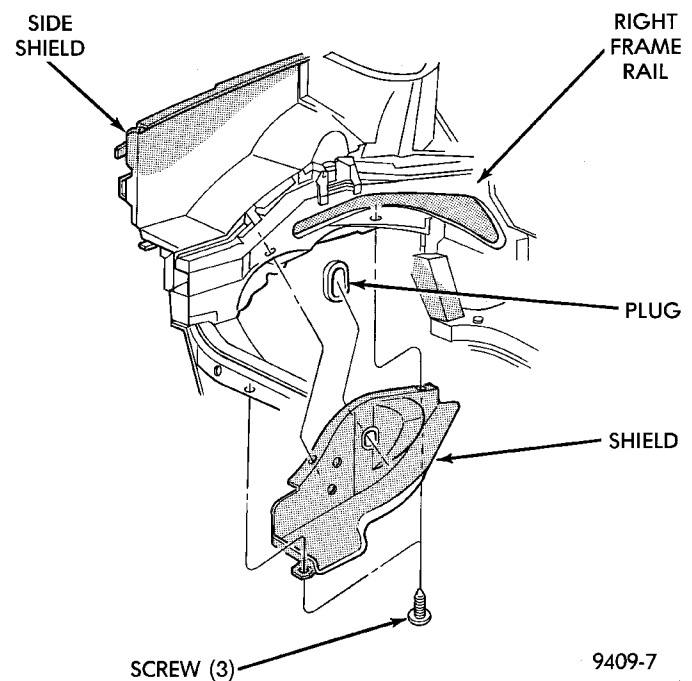

Fig. 86 Right Inner Splash Shield
(2) Raise vehicle on a hoist and remove right inner splash shield (Fig. 86).